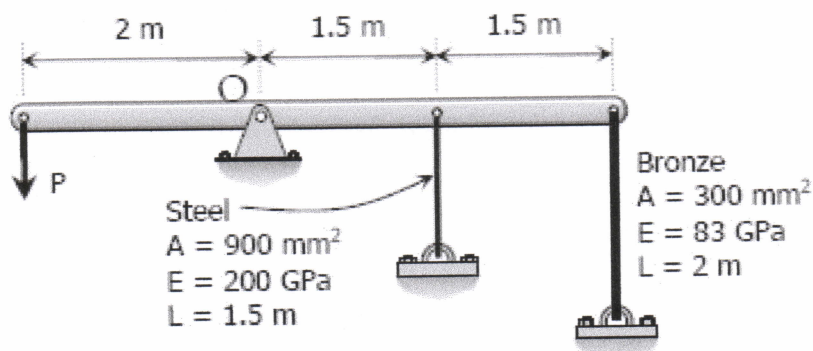

Figure Q4
- Q4.** As shown in **Figure Q4**, a rigid bar with negligible mass is pinned at O and attached to two vertical rods. Assuming that the rods were initially stress-free, what maximum load P can be applied without exceeding stresses of 200 MPa in the steel rod and 80 MPa in the bronze rod. (25 marks)